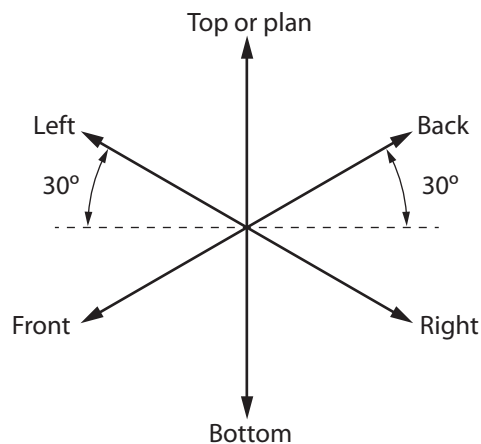

Figure 9— Step 1: Isometric guide for front-right view
Draw a small star-shaped axis on the bottom corner of your grid paper. The sloping axes should be drawn at a  $30^\circ$  degree angle from the horizontal grid line. The vertical axis of the star indicates height (H) or depth (D), and the two sloping axes indicate the length (L) and the width (W) of the rectangle. The vertical axis can be used as a guide when making lines on your drawing. Notice we have labelled the points on the star in Figure 9. These labels can change depending on the view that you may want when drawing a stationary object. The bottom two horizontal points indicate the view that is being drawn. In this case we would be creating a front-right view.